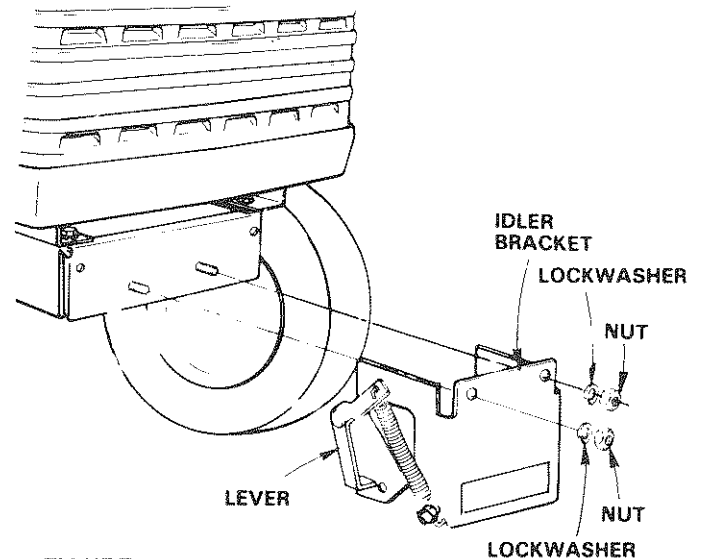

FIGURE 36
- b. Remove lockwashers and nuts from idler bracket (Fig. 36).